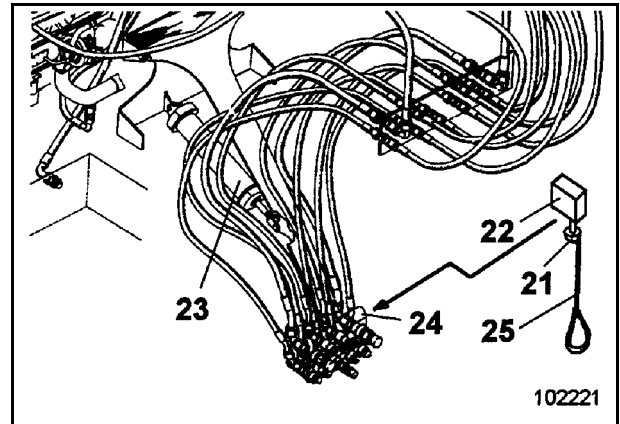

Fig. 2-61:
Draw out control knob (21, Fig. 2-61:) of valve (22) with rope (25). The service station is brought down to the lower position. Turn knob (21) by 90° and engage.